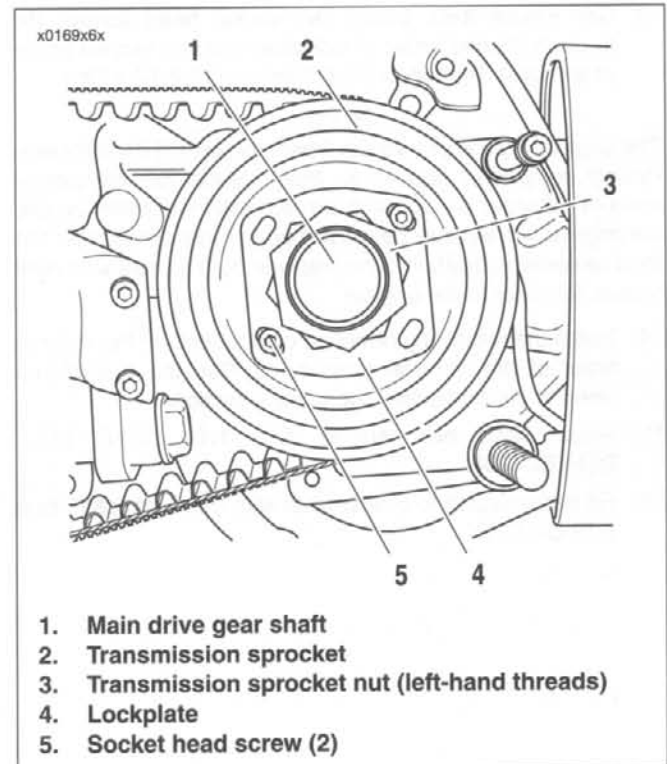
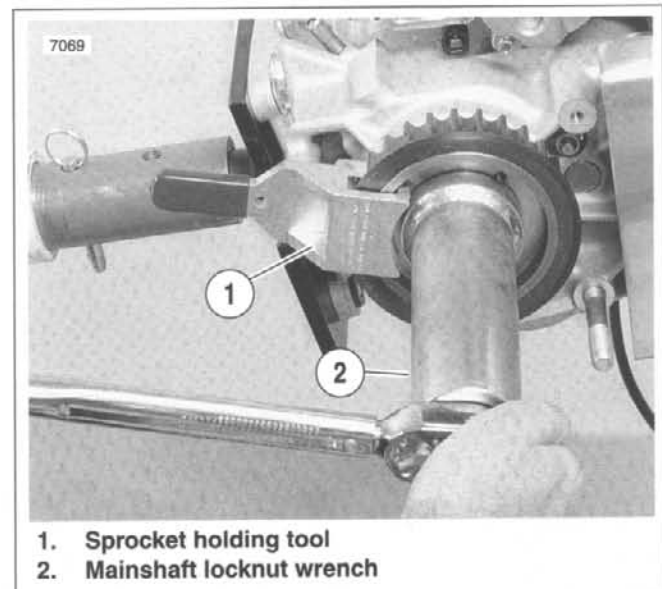

Figure 6-62. Transmission Sprocket
Figure 6-63. Transmission Sprocket Tightening
9. See Figure 6-62. Increase belt deflection by loosening rear axle and moving rear wheel forward. Install transmission sprocket (2) with secondary drive belt onto main drive gear shaft (1).
11. Apply a few drops of LOCTITE THREADLOCKER 262 (red) to the **left-hand threads** of transmission sprocket nut (3). Position nut with washer-faced side facing transmission sprocket. Turn the nut **counterclockwise** to install it onto main drive gear shaft.
- a. See Figure 6-63. Install SPROCKET HOLDING TOOL (1) (Part No. HD-41321) as shown. Use MAINSHAFT LOCKNUT WRENCH (2) (Part No. HD-94660-37B) and a torque wrench to tighten sprocket nut to 50 ft-lbs (67.8 Nm) INITIAL TORQUE ONLY.
- d. See Figure 6-62. Install lockplate (4) over nut (3) so that two of lockplate's four drilled holes (diagonally opposite) align with sprocket's (2) two tapped holes.
13. See Figure 6-62. Install two socket head screws (5) through aligned holes of lockplate and into tapped holes of sprocket. Tighten to 90-110 **in-lbs** (10.2-12.4 Nm).